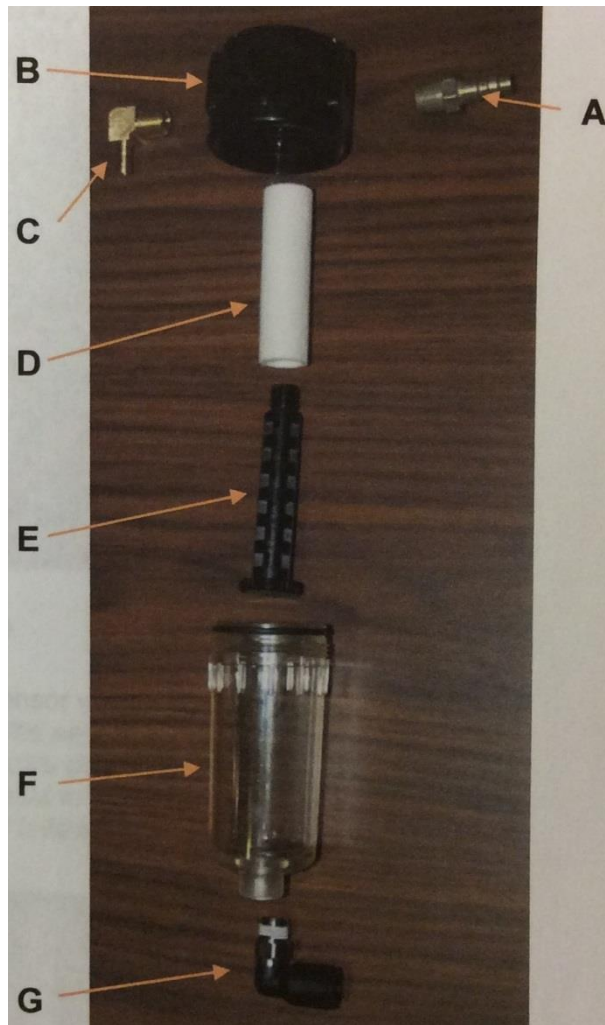

Figure 3: Water trap
3. Remove water drain hose from the bottom of the filter bowl (Figure 3)